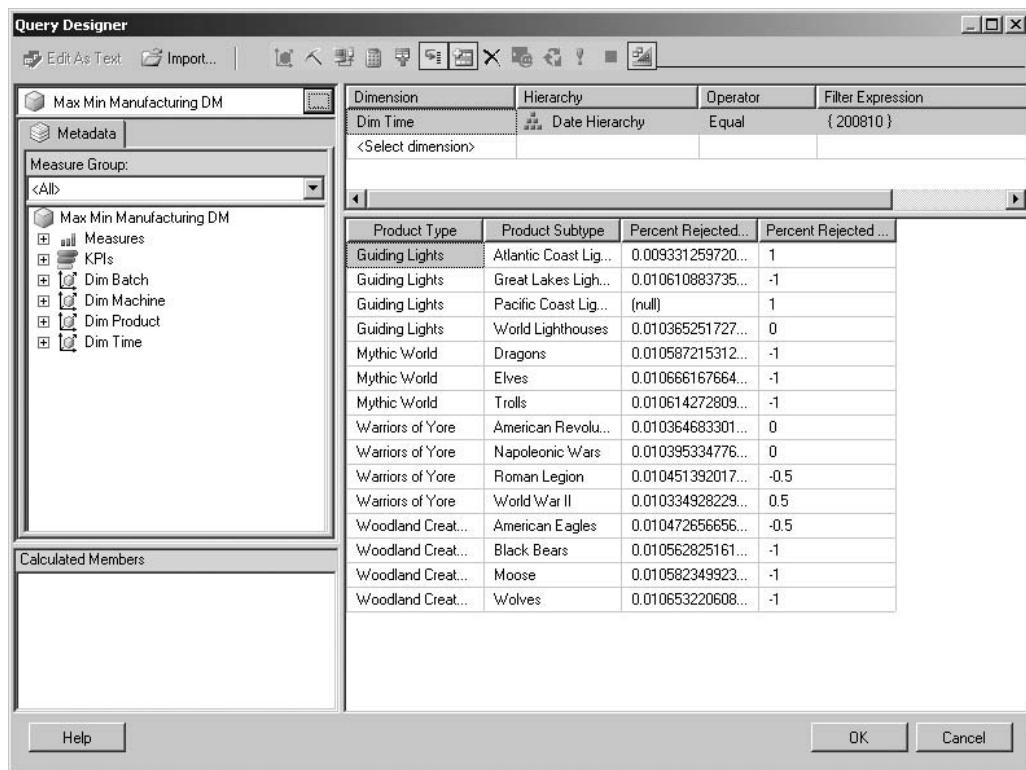

Figure 16-61 The Query Designer window
34. A Parameters column appears to the right. (You may need to expand the Query Designer window or scroll right to see the Parameters column.) Check the check box in the Parameters column. The Query Designer window appears as shown in Figure 16-61.